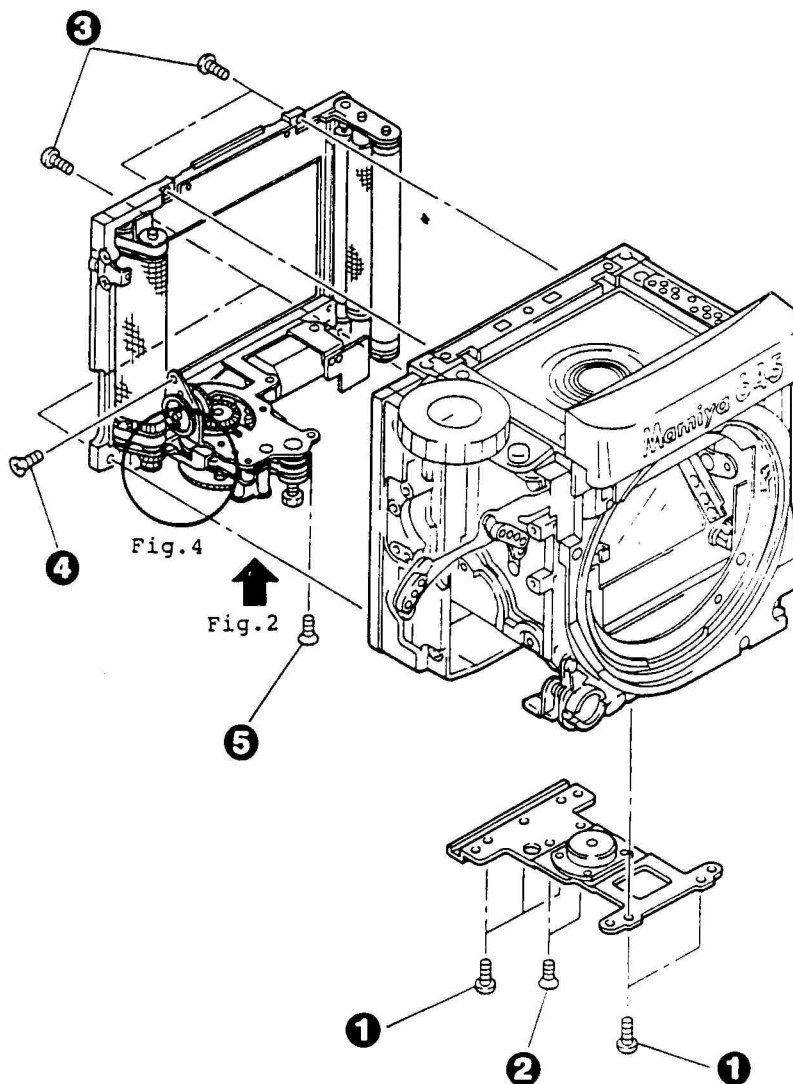

Fig. 1
1. Disassemble in the order of numerical figures shown in small circles. (See Fig. 1.)
**Note:** Let the F3 gear substrate (A) escape in the arrow direction, and remove the wind-up substrate unit (G). (See Fig. 1.)
2. Disassemble in the order of numerical figures shown in small circles. (See Fig. 1.)
3. Remove two places of contact ⑧ from the battery case. (See Fig. 1.)